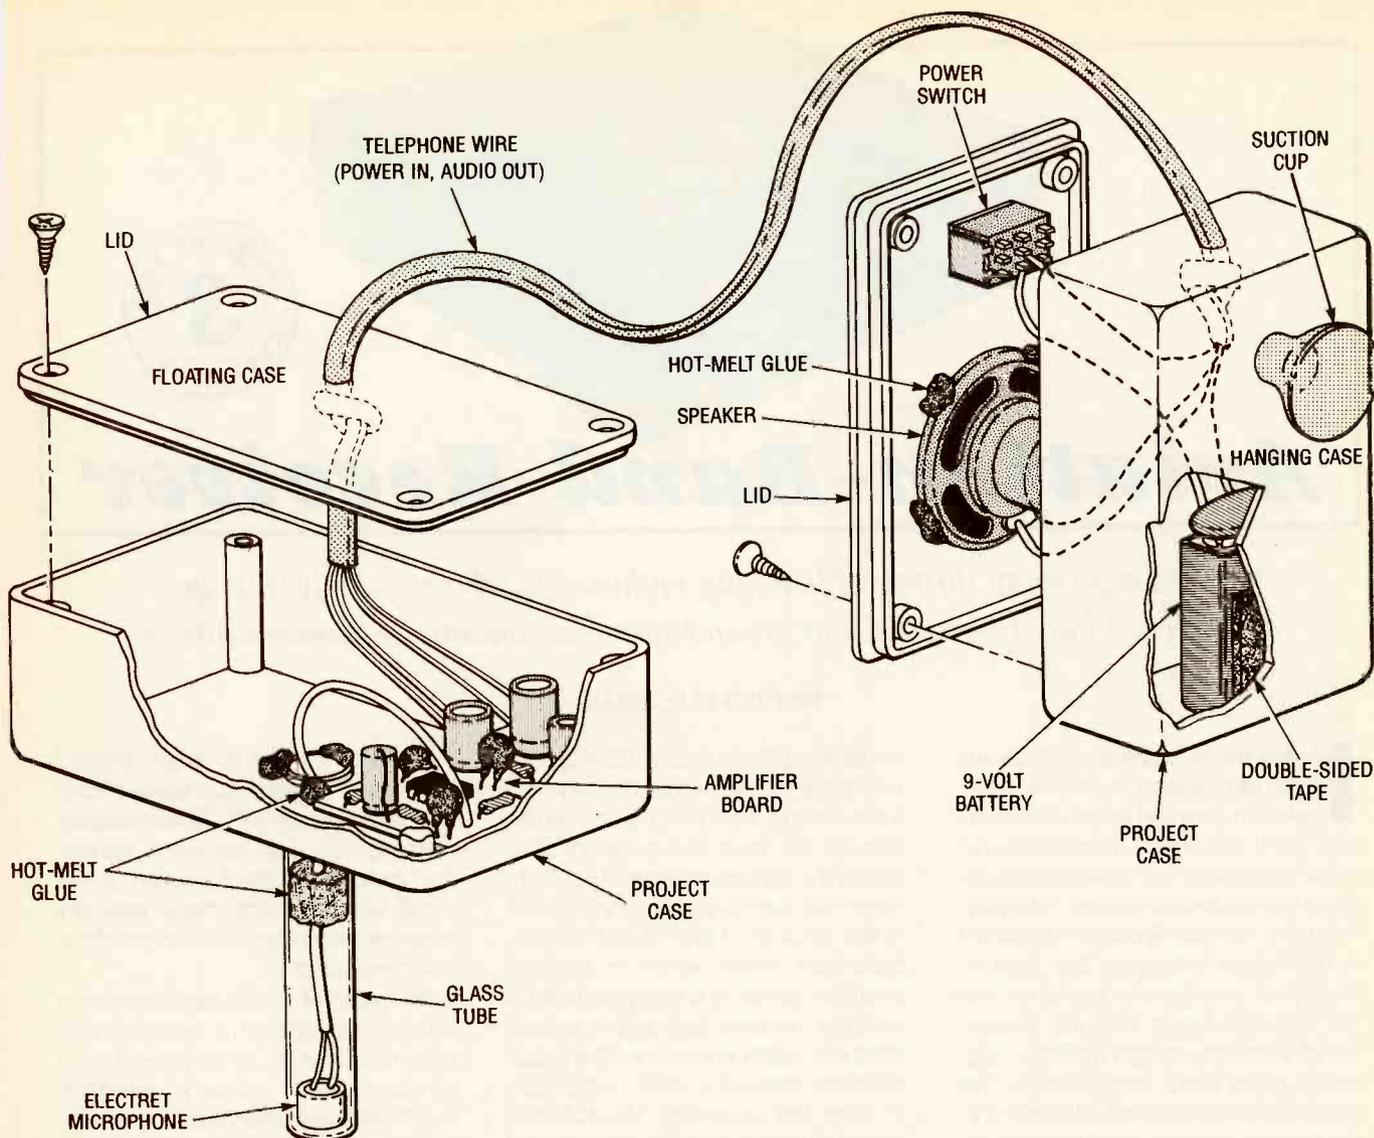

Fig. 2. The microphone and amplifier board are mounted in one floating project case, and the battery, speaker, and on/off switch are mounted in another case.
Figure 2 shows how the two sections
**Construction.** The Aviation Receiver was assembled on a printed-circuit board, measuring about 4 × 4¾ inches. Figure 2 shows a full-size template of that printed-circuit board's layout. A kit of parts (which includes an etched and pre-drilled, printed-circuit board, but no case) is offered by the supplier listed in the Parts List.
Fig. 2. Here's a full-size printed-circuit pattern for the Aviation Receiver. The printed-circuit board can be purchased as part of a full-blown kit or separately from the supplier listed in the Parts List.